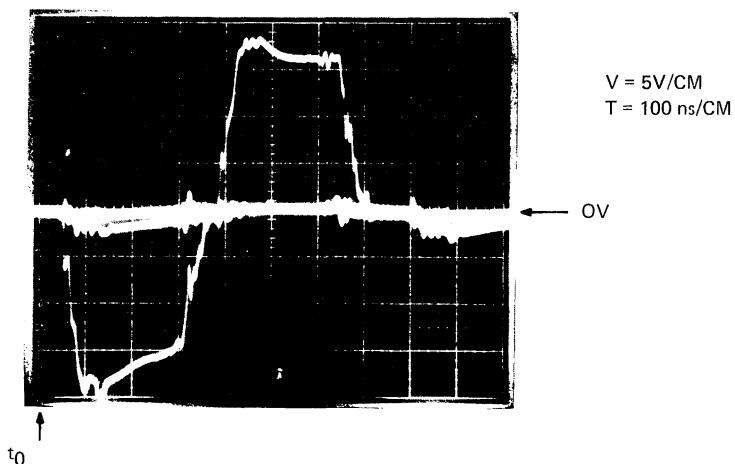
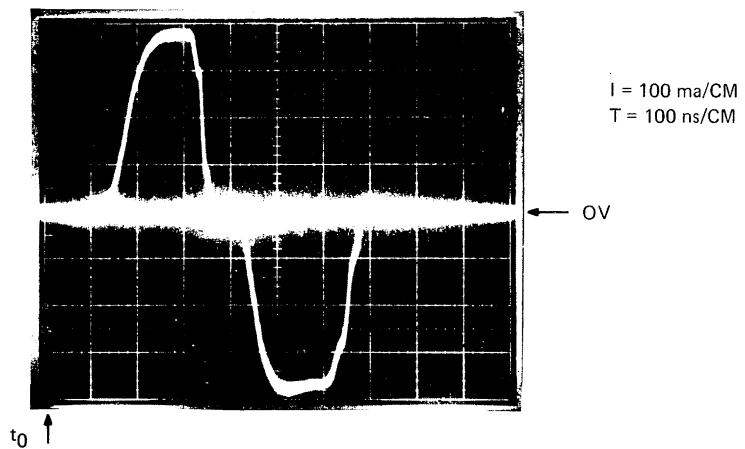
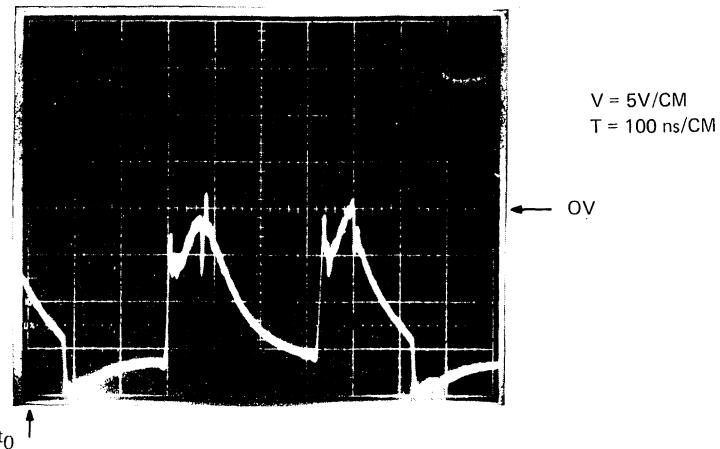

Figure 6. X Sink Voltage Waveform
Figure 8. X0 – Line Current Waveform
Figure 10. X – Discharge (Anode) Pin 01
4. X and Y currents improper	<p>Monitor X or Y Sink Bus Connector B pins and compare the voltage waveforms on Figures 6 and 7.</p> <p>If the current probe is available, monitor the current waveforms on the core stack's test loops. Compare the waveforms to Figures 8 and 9.</p> <p>Check the X and Y bias current source and its monitor point $V_{CM} = 1.80$ Volts $\pm .020$ Volts. Refer to Tests and Adjustments Section.</p> <p>If an individual current pulse appears abnormal, check the appropriate drive and sink address switches.</p> <p>Check that CHT0 Connector C Pins 0:3 are per Figure 10 and refer to Functional Schematic 35-607D08 Sheets 11 and 17.</p>